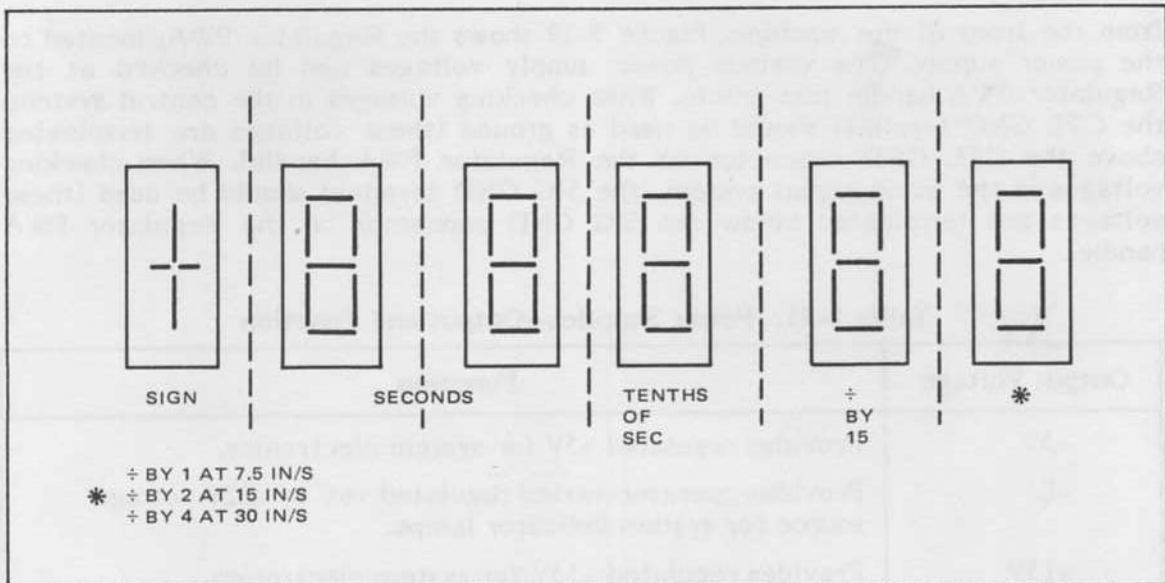
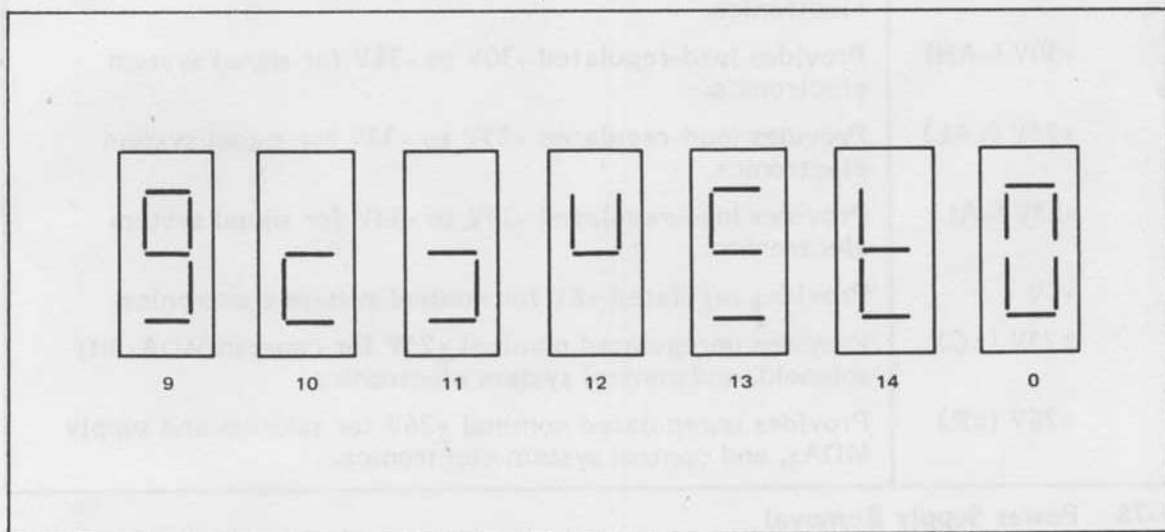

Figure 5-37. Tape Timer Readouts - J1 of STC PWA In CD Position
Figure 5-38. Readout Progression (Partial) for Divide-by-15 Digit Display
If it is suspected that the tape timer is not operating properly in one or more of the tape speed operations, an operational check may be made with jumper J1 on the single point Search-to-Cue PWA (see Figure 2-18) set to the CD position. With jumper J1 in the CD position, the tape timer digital readout assumes the time intervals indicated in Figure 5-37.
For the least significant digit shown in Figure 5-37, the readout is a constant zero at 7.5 in/s (\div by 1); the readout rolls back to zero after a count of one at 15 in/s (\div by 2); the readout rolls back to zero after a count of three at 30 in/s (\div by 4).
For the second least significant digit shown in Figure 5-37, the readout rolls back to 10 after a count of 14 regardless of the tape speed selected. Digits 0 through 9 progress with their normal configurations displayed, but digits 10 through 14 displays the special characters indicated in Figure 5-38.
- STEP 3 Set the +5V adjust control on the Regulator PWA (Figure 5-38) for a meter reading of +5.00V to +5.25V.